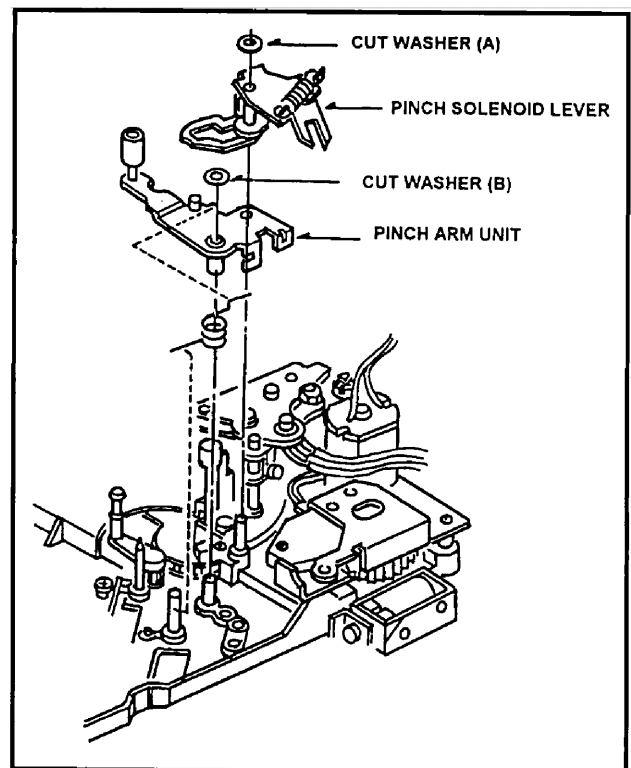

Fig.M10
2. Remove the Pinch Solenoid Unit (Refer to item 4).
3. Remove the Cut Washer(A) to remove the Pinch Solenoid Lever as shown in Figure M10.
4. Remove the Cut Washer(B) to remove the Pinch Arm Unit as shown in Figure M10.